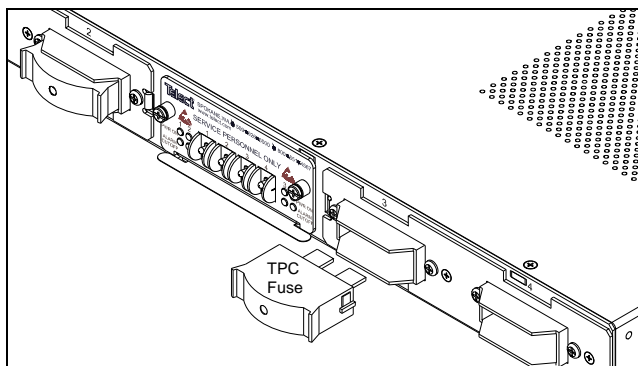

Figure 11 - Installing Fuses
21. With input power on, firmly install each fuse in panel, as shown in Figure 11.